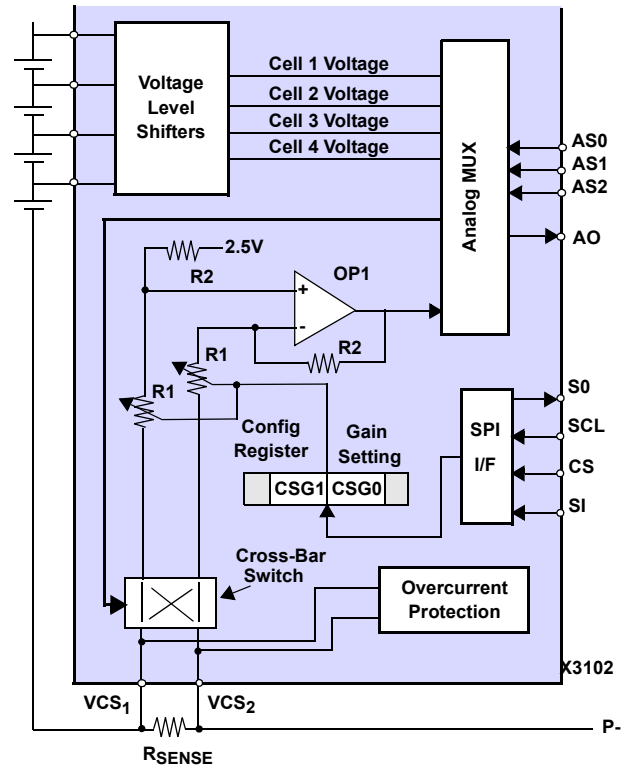

FIGURE 15. MONITOR CIRCUIT
The X3102 can be used to externally monitor individual battery cell voltages, and battery current. Each quantity can be monitored at the analog output pin (AO), and is selected using the analog select (AS0–AS2) pins (Table 25). Also, see Figure 15.
Since the value of the sense resistor (RSENSE) is small (typically in the order of tens of mΩ), and since the resolution of various A/D converters may vary, the voltage across RSENSE (VCS1 and VCS2) is amplified internally with a gain of between 10 and 160, and output to pin AO (Figure 15).